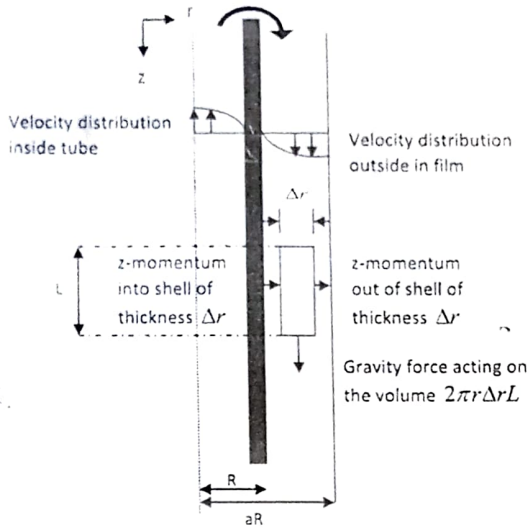

Figure 1
| Q 2 In a gas absorption experiment an incompressible viscous Newtonian fluid flow upward through a small circular tube and then downward in laminar flow on the outside. Set up a momentum balance over a shell of thickness Δr in the film, as shown in figure 1. Note that the "momentum in" and "momentum out" arrows are always taken in the positive coordinate direction, even though in this problem the momentum is flowing through the cylindrical surfaces in the negative r direction. Show that the velocity distribution in the falling film (neglecting end effects) is | (10) |